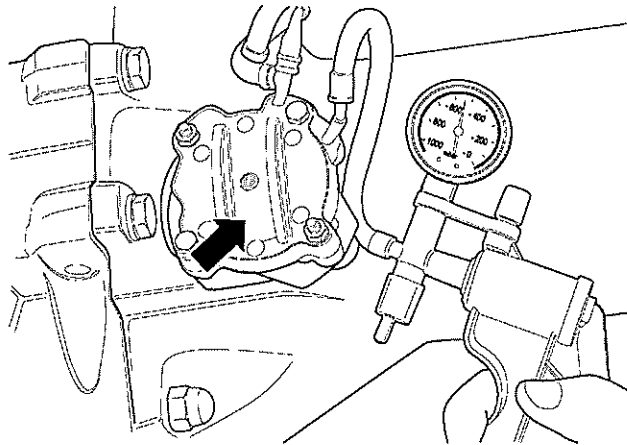

Fig 20 Testing pneumatic actuator
33.1.1 Pull off vacuum tube and connect vacuum pump. Actuate pump until it reaches 500- 600 mbar. If vacuum is not produced or maintained, remove pneumatic actuator assembly and continue checking (see Fig 20).